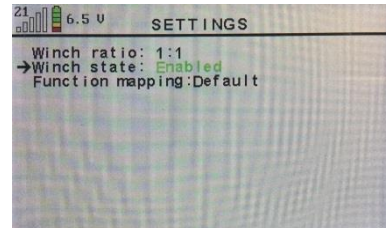

Figure: 38
- Then open **settings** by pressing the ✓ button. Now move the arrow on the screen to **winch state** with the ⏪ button. Then set the **winch state** to **Enabled** by pressing the (▶) button (see figure 38).
- For the correct current load indication on the display while using the winch, the **winch state** must be set properly. This must be set to 1:1 (see figure 38).